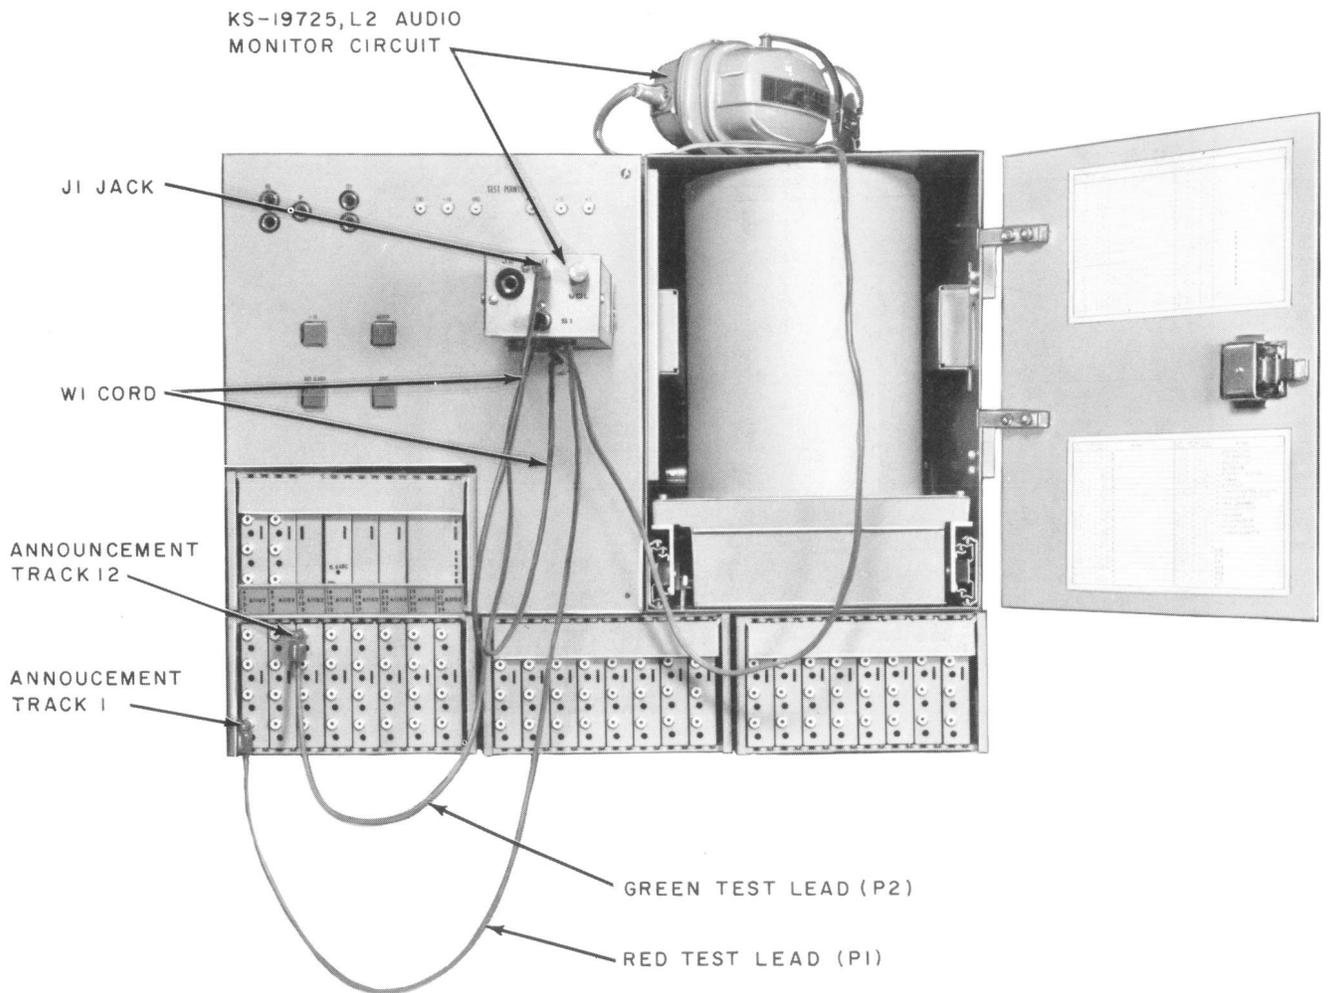

Fig. 8—Message Synthesis Service Announcement Machine Arranged For Local Monitoring and Adjusting With Audio Monitoring Circuit
- (1) Connect the audio monitor circuit into HEADSET jack on the storage module (Fig. 8).
- (2) Connect a W1 test cord from MONITOR jack of storage module to J1 jack of audio monitor circuit.